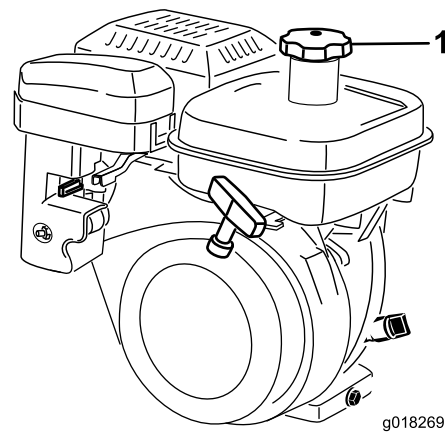

Figure 22
1. Clean around the fuel tank cap and remove the cap from the tank (Figure 22). Using unleaded gasoline, fill the fuel tank no higher than to the bottom of the filter screen. Do not overfill.